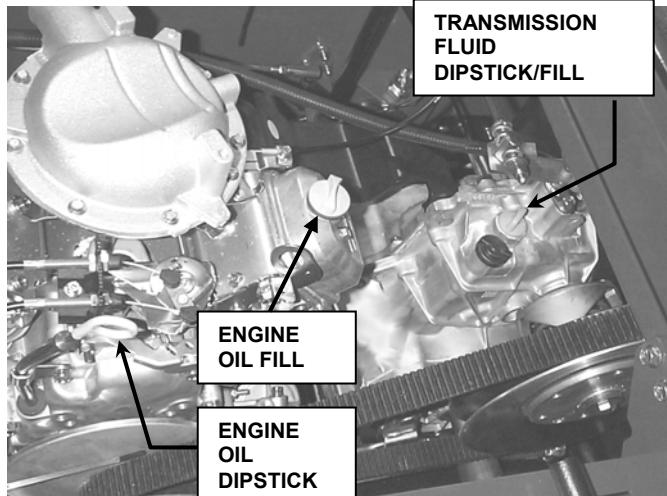

FIGURE 2.1
2.1.5. Check Engine oil and Transmission fluid. Raise empty cargo bed and carefully secure with prop rod. Add oil as needed to bring engine to FULL mark on dipstick. See Figure 2.1. Refer to Engine Owner's manual for engine oil specifications. Add fluid as needed to bring transmission to FULL mark on dipstick. See Figure 2.1. Use MOBILFLUID 424 or equivalent. **IMPORTANT!** Do Not overfill. Always fully thread dip stick when checking transmission fluid levels.